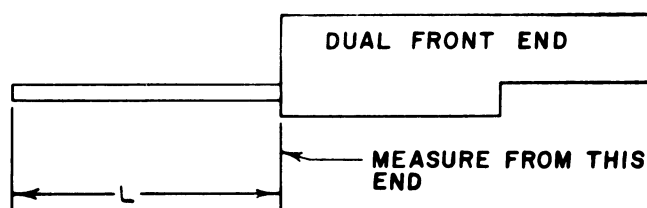

Figure 9 - DFE Cable Length
2. Measure the cable as shown in Figure 9 and cut the cable to length.